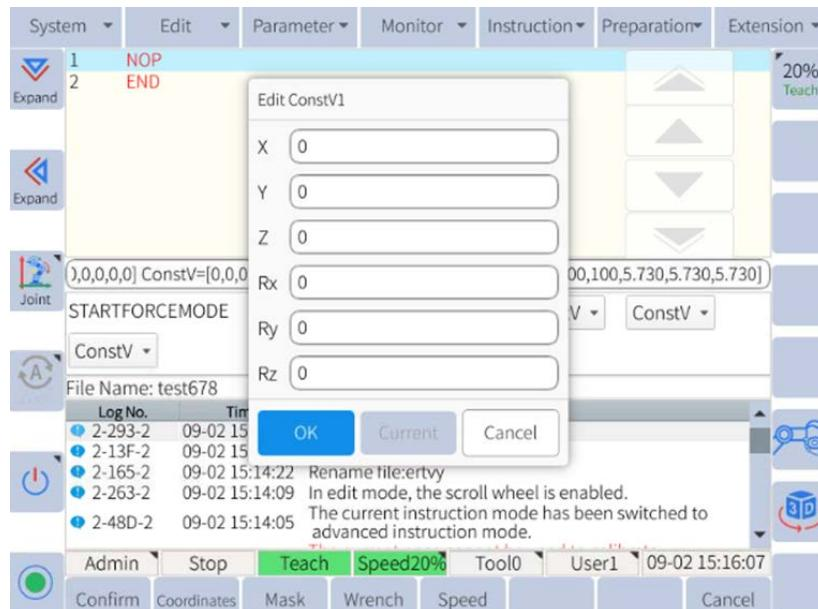

Figure 6-50: Setting the masks of the DOFs
- The user can set the mask of the DOFs by clicking the **Mask** button. Each mask contains motion control (series no.: 0) and force tracking (series no.: 1), as shown in **Figure 6-50** (The mask 001000 indicates that the Z-axis direction of the current force control coordinate system is force tracking.).